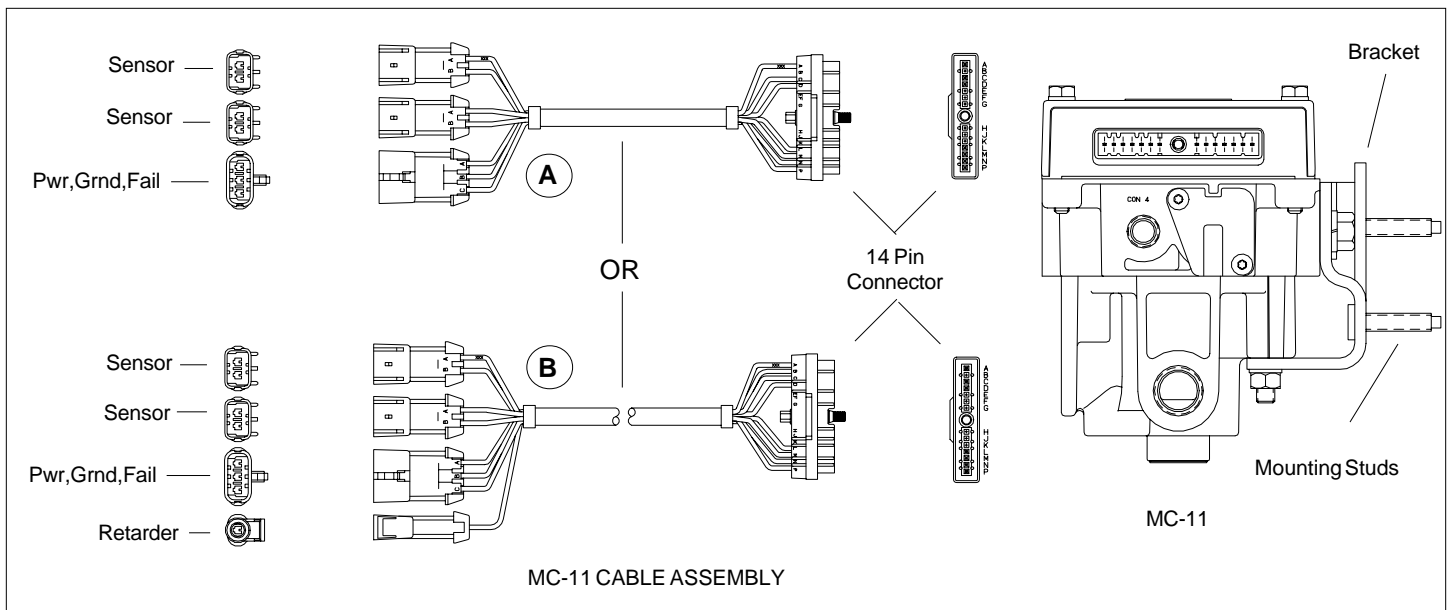

FIGURE 2 - MC-11 INSTALLATION
4. Refer to Figure 2 when installing the MC-11 cable assembly. Kits for vehicles without a retarder include cable assembly "A," and kits for vehicles with a retarder include cable assembly "B."